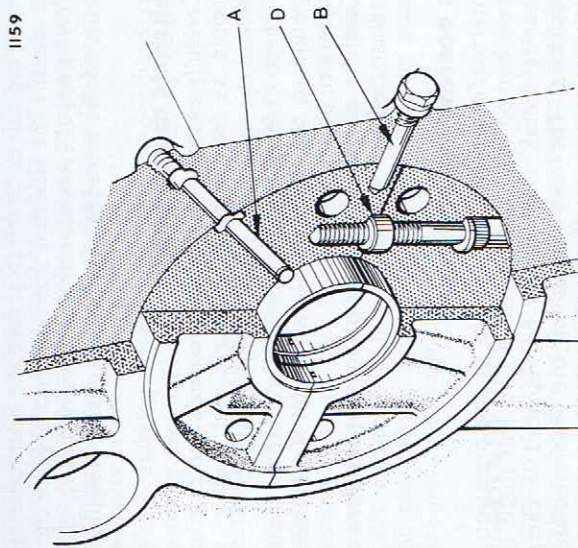

Fig. 9
44. To replace crankshaft and time engine (Fig. 9, 10 & 14)
- (c) Make sure that the intermediate main bearing housings are correctly fitted with the oil hole (A) and locking screw hole (B) in their relative positions. Make sure that the dowels (D) are correctly fitted.